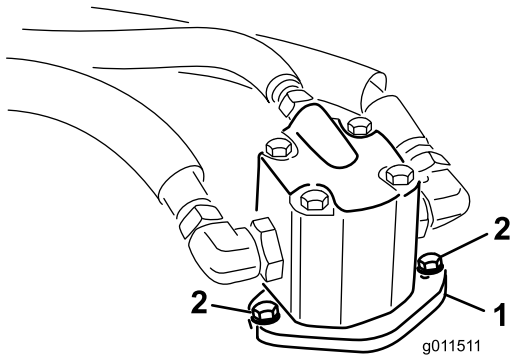

Figure 71
- Remove the bolts securing the hydraulic motor to the cutting unit (Figure 71). Lift the motor off of the cutting unit and lay it on top of the cutting unit.